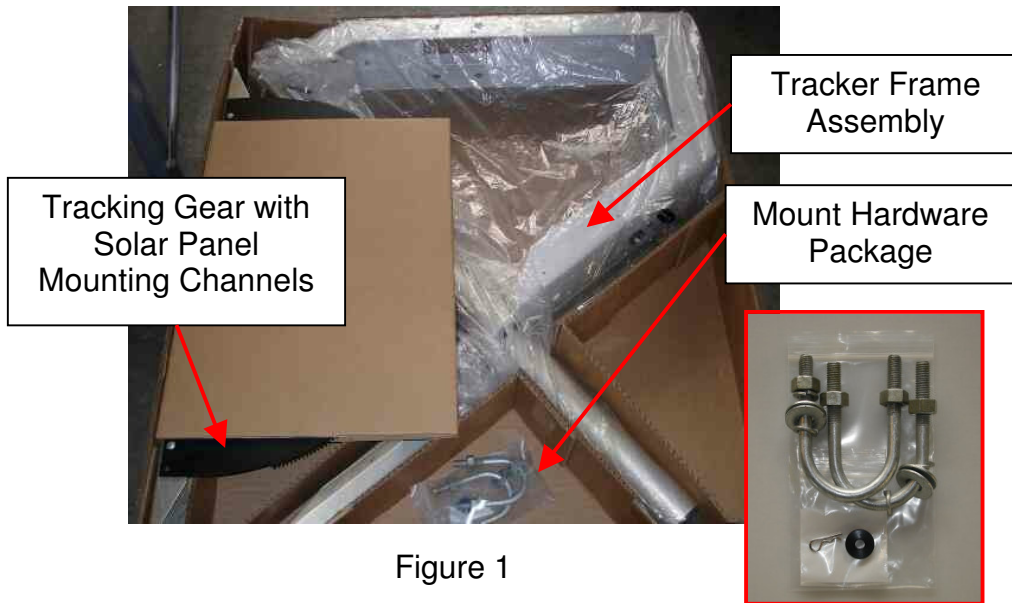

Figure 1
1. Unpack all components from the SPT shipping container. The box will contain a Tracker Frame Assembly, Tracking Gear with Solar Panel Mounting Channels, and the Mount Hardware Package. See Figure 1.